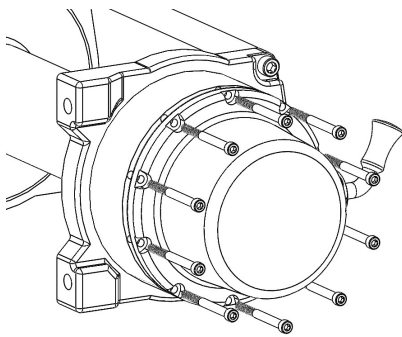

Figure 6A
- A. Remove the allen screws that retain the clutch and gear box. (Figure 6A)